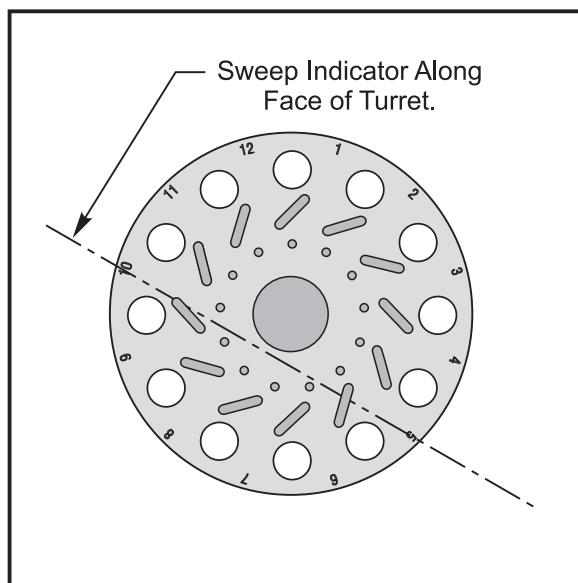

Figure 3.1-2. Turret alignment verification (X-axis)
3. Place the magnetic indicator base on the spindle retainer ring. Position the indicator tip on the turret face so there is at least 3.5" of travel in each direction from the center of the X axis and 1/4" below the center cap. Refer to Figure 3.1-2.